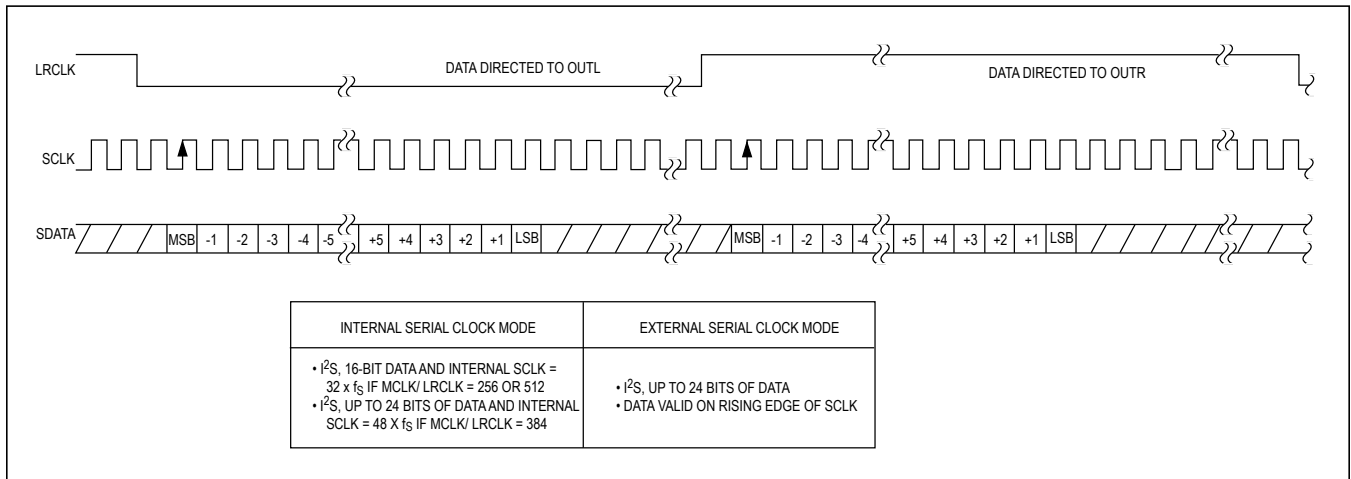

Figure 4. MAX5556 Data Format Timing
- Note 6:** In external SCLK mode, LRCLK duty cycles are not limited, provided all data formatting requirements are met. See Figure 4.
- Note 8:** The SCLK/LRCLK ratio can be set to 32, 48, or 64, depending on the MCLK/LRCLK ratio selected. See Figure 4.
The serial interface strob­es data (SDATA) in on the rising edge of SCLK, MSB first. The MAX5556 supports four different data formats, as detailed in Figure 4.
LRCLK is the left/right clock input signal for the 3-wire interface and sets the sample frequency (f_S). On the MAX5556, drive LRCLK low to direct data to OUTL or LRCLK high to direct data to OUTR (Figure 4). The MAX5556 accepts data at LRCLK audio sample rates from 2kHz to 50kHz.
The MAX5556 accepts data with an I²S left-justified data format, accepting 16 or 24 bits of data. SDATA accepts data in two's complement format with the MSB first. The MSB is valid on the second SCLK rising edge after LRCLK transitions low to high or high to low (Figure 4). Drive LRCLK low to direct data to OUTL. Drive LRCLK high to direct data to OUTR. The number of SCLK pulses with LRCLK high or low determines the number of bits transferred per sample. If fewer than 24 bits of data are written, the remaining LSBs are set to 0. If more than 24 bits are written, any bits after the LSB are ignored.